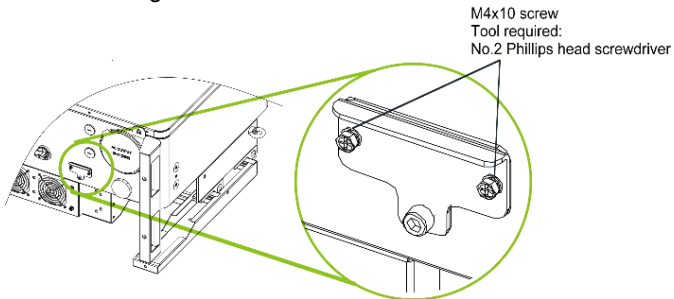

Figure 3-10 Expose the connector
1. Remove the two M4x10 fixing screws on the DB9 connector cover, as shown in Figure 3-10.